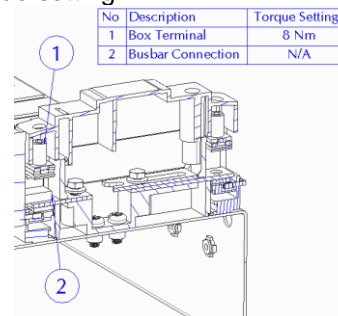

Fig. 6
9. Fasten the cage to the busbar. Refer to Fig. 6 for torque setting.